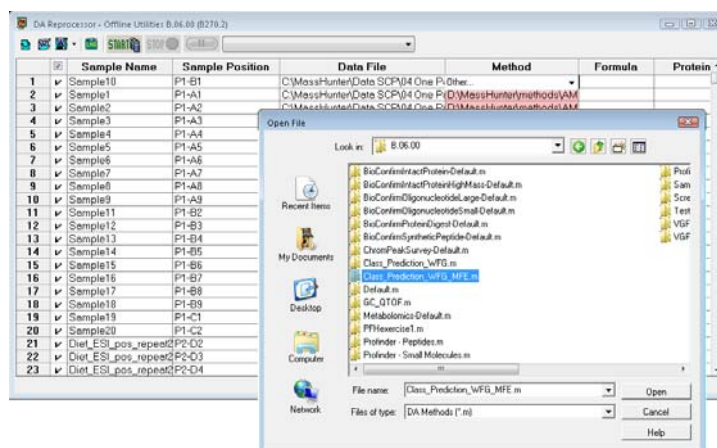

Figure 41 Selecting the MassHunter Qualitative Analysis method
- e Click the Method name for the first sample in row 1 and select the name of the method saved from MassHunter Qualitative Analysis. If the method you saved is not in the immediate list, select "Other", and then you can select the folder and method using the **Open File** dialog box as shown in Figure 41 on page 60.